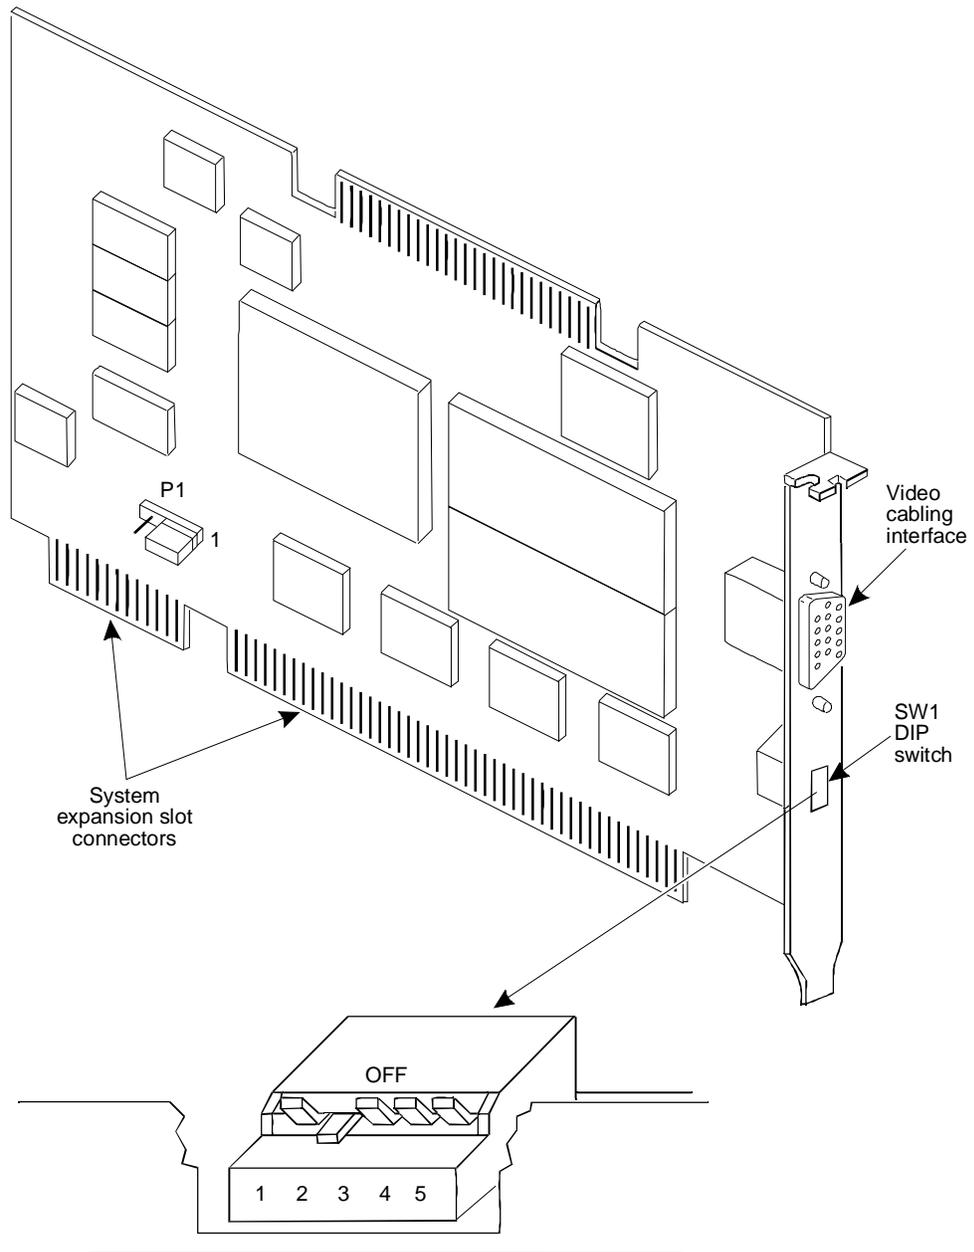

Figure 5-28. WDXLR83160 Video Controller Circuit Card and Switch Settings
- WDXLR83160 (Figure 5-28)
There are no jumpers on the WDXLR83160 video controller card. There are switches which must be set before the circuit card can be installed in the MAP/100 (Figure 5-28).